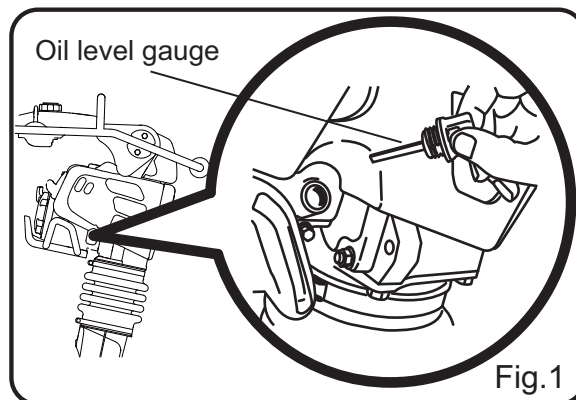

Fig.1
- 3 To check the engine oil, place the machine body on a level surface and then tilt it forward. (Figure 1)